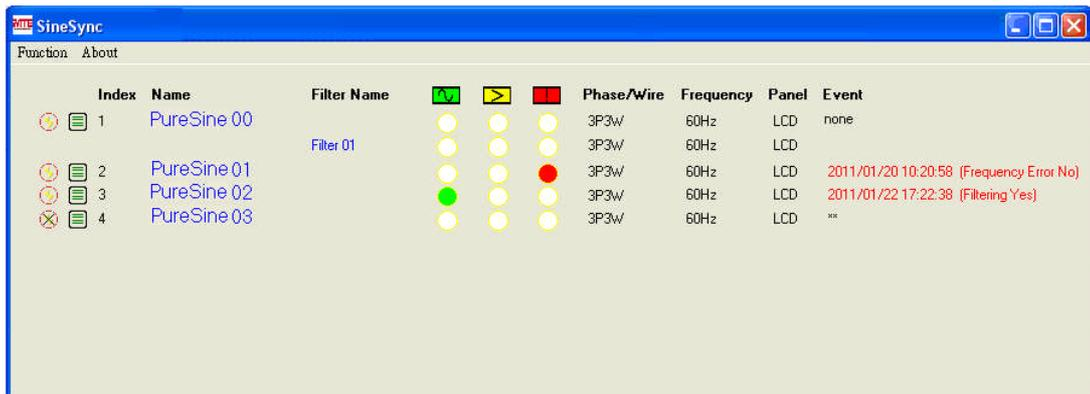
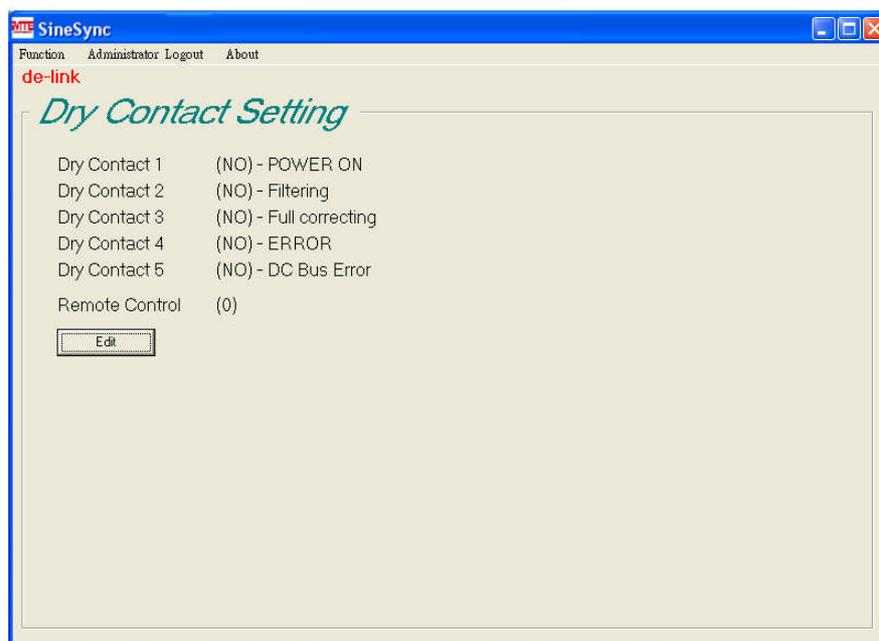

Figure 3-19
Figure 3-20
- e. **Delete Records** : Click the “Delete Records” button to set the start and end time of the records desired to be deleted. See Figure 3-19. Click the “Delete” button to delete the power parameters data from the database.
When the communication between the computer and the **PureSine** is disconnected, the **SineSync** main window will display the disconnected symbol and a **de-link** message. Please refer to figure 3-19 and figure 3-20.